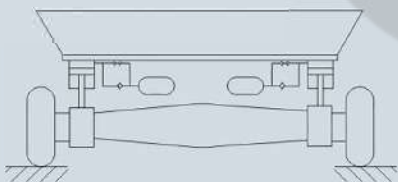

图8 Fig.8
6、液压设备中的机械振动可被蓄能器吸收，用于叉式提升机的驱动和悬挂系统、移动吊车、农用和市政设备、石块破碎机等。(图8所示)
Mechanical shocks in hydraulically driven equipment can be absorbed by accumulators. Possible applications are in drive and suspension systems for fork-lifts, mobile cranes, agricultural and civil engineering machinery, rock crusher etc.(Fig.8)